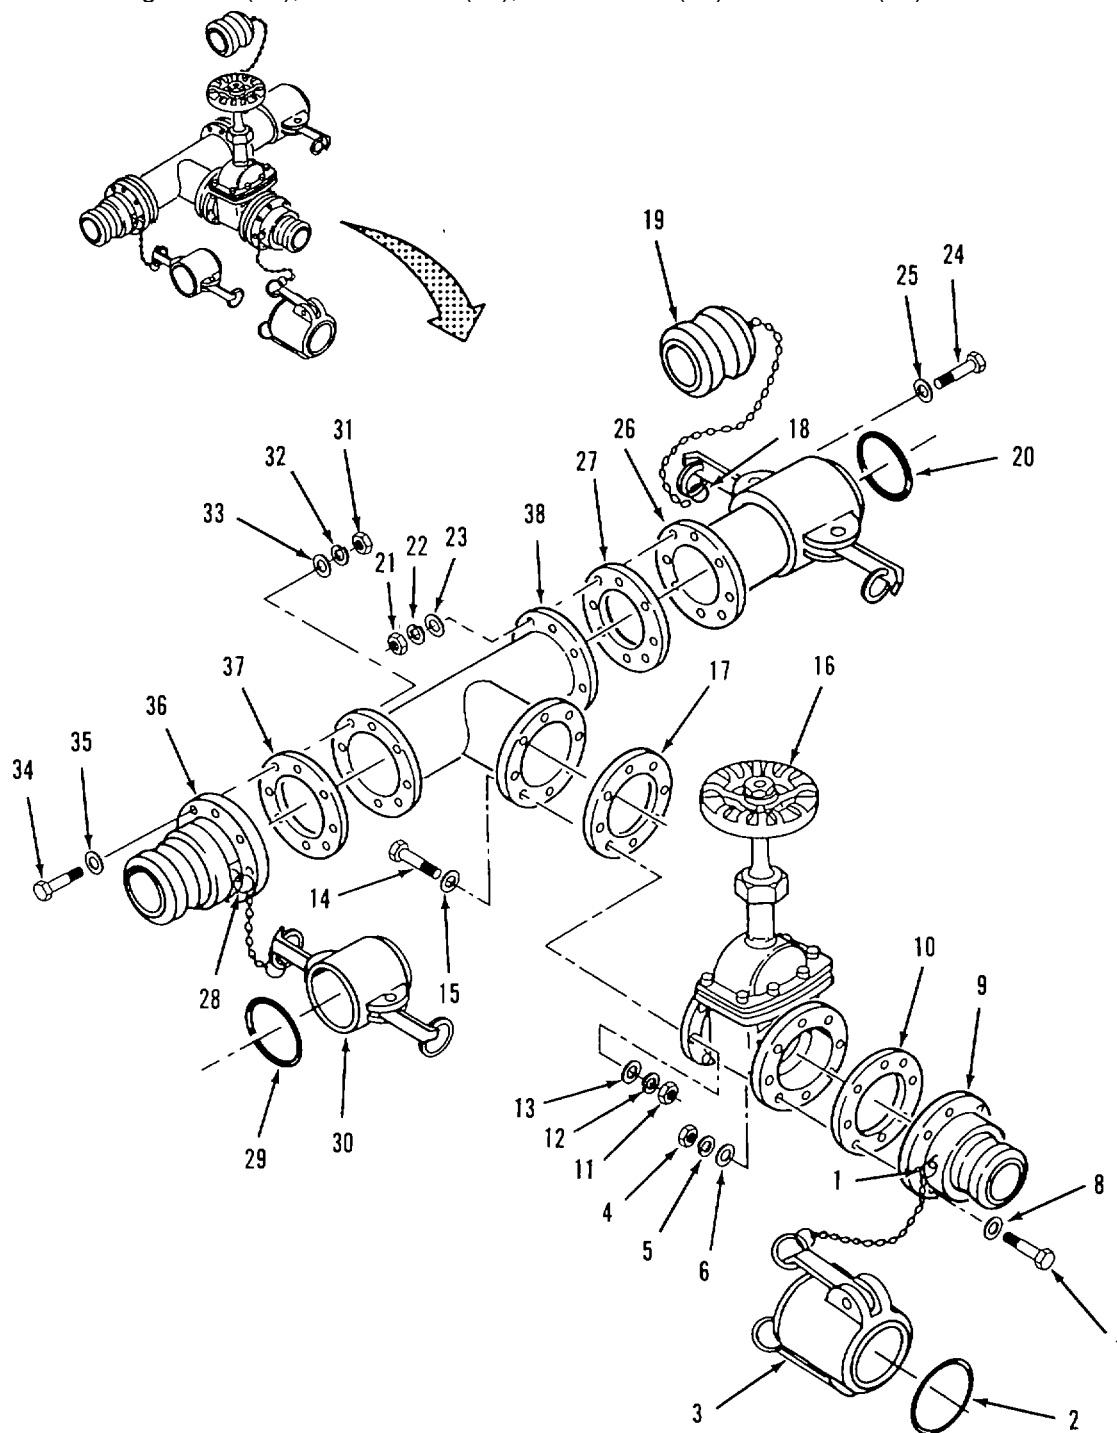

Figure 4-31. Tee and Gate Valve assembly (9114-Y1) Disassembly.
- a. Disassembly. Refer to figure 4-31.
- (1) Disconnect ring (1) from male coupling (9) and remove cap (3).
- (2) Remove gasket (2) from cap (3).
- (3) Remove eight nuts (4), lockwashers (5), flat washers (6), screws (7) and flat washers (8).
- (4) Separate male coupling (9) and gasket (10) from gate valve (16).
- (5) Remove eight nuts (11), lockwashers (12), flat washers (13), screws (14) and flat washers (15).
- (6) Separate gate valve (16) and gasket (17) from tee (38).
- (7) Disconnect ring (18) from female coupling (26) and remove plug (19).